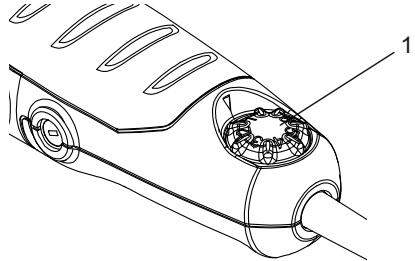

Fig. 7
The speed of the tool can be adjusted to run the tool at speeds varying between 10,000 OPM and 22,000 OPM by rotating the speed control wheel (1) located toward the rear of the tool housing (Fig. 7).
3. Place the tool with the saw blade (3) lightly touching the surface of the tile and the cutting teeth NOT touching the surface to be cut.
4. Set the speed to the fastest speed (Fig. 7 on Page 11).
3. Place the corner edge of the saw blade (2) near the drywall in the middle of one of the cutting lines.
4. Set the speed to the highest speed (Fig. 7 on Page 11).
3. Set the speed control wheel between #5 and MAX (Fig. 7 on Page 11).
2. Set the speed control wheel to #4 (Fig. 7 on Page 11).